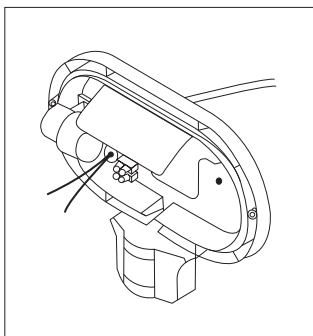

Fig. 2
2. Pass supply cable (1.5mm twin core) through centre of grommet in backplate. Mount backplate to wall with fixings provided bearing in mind previous installation instructions. **IMPORTANT** Ensure fixings are horizontal. (see figs 2 and 3)